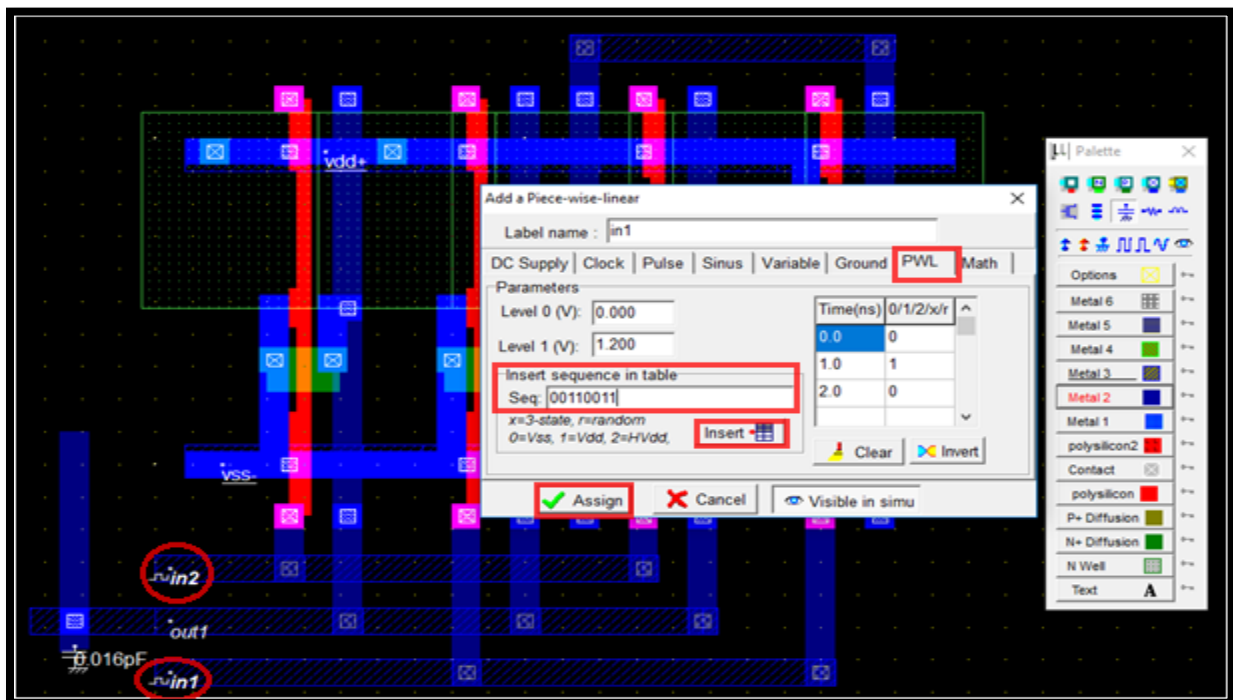

Figure 33:insert a 01 sequence
- Vdd and GND rails are of Metal1. The top rail is used as Vdd and the bottom one as GND. Click on Metal 1 in the palette and then create the required rectangle in the layout window. See figure 33: